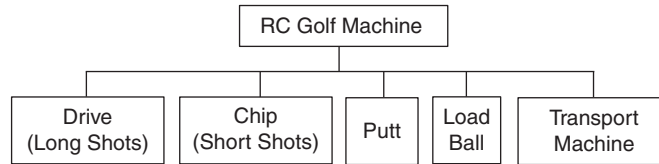

FIGURE 24.6
Start out by decomposing the overall function into four or five subfunctions. Usually, verbs such as *move*, *lift*, and *control* are used in naming the functions. Fig. 24.6
It is very important that the functional decomposition be general enough to avoid biasing the design solution. For example, the separate drive and chip functions in Fig. 24.6 may cause the design team to overlook the possibility of using the same device to fulfill both functions. If solution bias is unavoidable, introduce multiple functional decompositions.
11. You are designing an electric footstool. It must have an electric heater, move easily on the floor, and have remotely controlled height. Draw a functional decomposition diagram like the one shown in Fig. 24.6 for your footstool.
12. You want to design a hot dog stand for a street vendor. Decide what the stand must be able to do (e.g., heat water, store condiments, buns and wieners, etc.) and prepare a functional decomposition diagram like the one shown in Fig. 24.6 for your design.
13. Examine the toaster in your home and determine all its components. Then draw a functional decomposition diagram like the one shown in Fig. 24.6 for the toaster.
14. Examine a coffee maker at home or in a department store. Then draw a functional decomposition diagram like the one shown in Fig. 24.6 for the coffee maker.
15. You are to design a small robot that will climb a vertical wall. Determine all the subfunctions required of the robot and draw a functional decomposition diagram like the one shown in Fig. 24.6 for the robot.